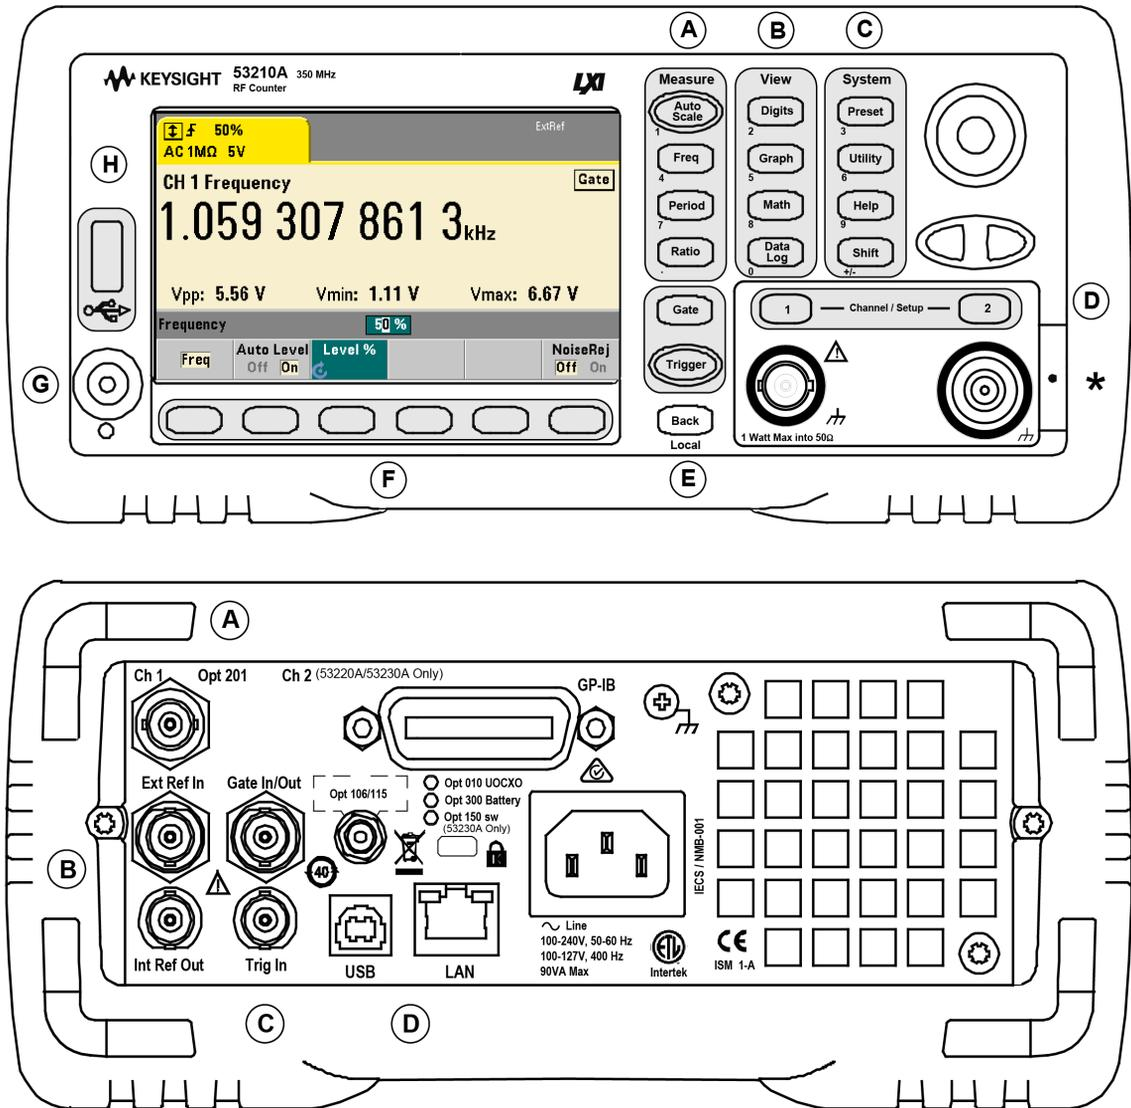

Figure 1-1 The 53210A Universal Frequency Counter/Timer.
Figure 1-1 shows the front and rear panels of the Keysight 53210A 350 MHz RF Counter.
D. Channel Keys - select the input channel and displays the soft key menu used to configure the input signal path. Note that Figure 1-1 includes Channel 3 Option 106 / 115. Signal path configuration is covered in Chapter 4.
The 53210A rear panel shown in Figure 1-1 includes product Option 201 (parallel rear panel input) and GPIB interface. The rear panel terminals are briefly described below.